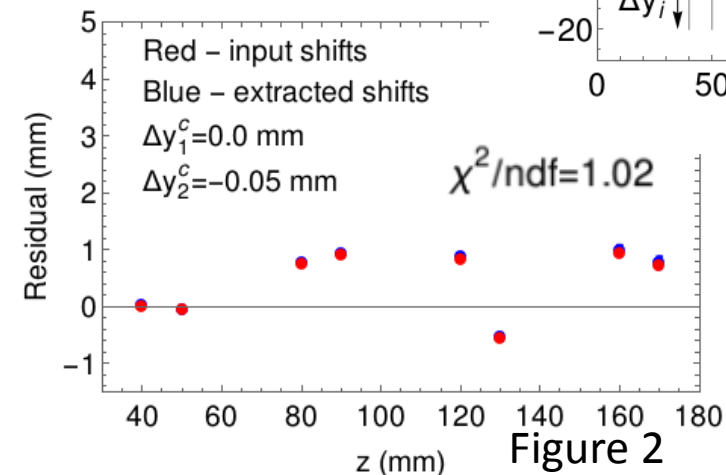

Figure 2
- Excellent fit results (Fig. 2) if the constraints are well measured (i.e. survey data).